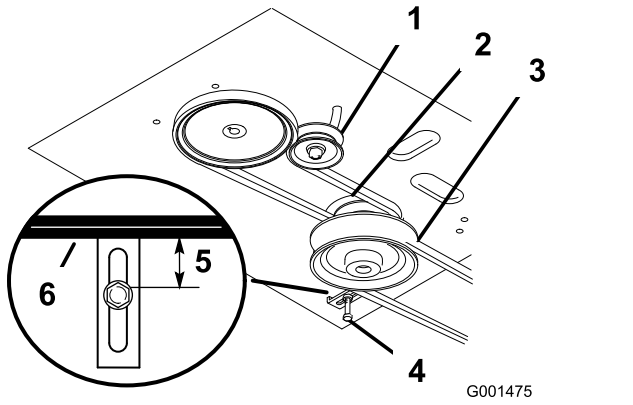

Figure 41
4. Remove the mower belt (Figure 41).
5. Loosen the pivot bolt enough to slide the idler pulley in the slot, and remove the traction belt from the engine and the drive pulleys (Figure 41).
6. Install the new drive belt around the engine and the drive pulleys (Figure 41).
7. Slide the idler pulley in the engine frame to tension the traction belt (Figure 41).
8. Install the mower belt (Figure 41).
9. Check the belt guide under the engine frame for the proper adjustment (Figure 41).
13. Check the belt guide under the engine frame for the proper adjustment (Figure 41).